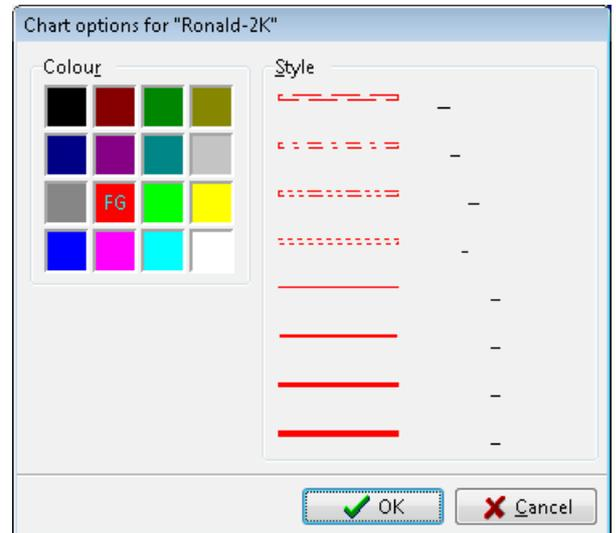

Figure 20 - Chart options
2. The Training sessions list can be found in the top-right. A training session can be temporarily switched on and off by (un-)checking the check box in front of it. “Checked” training sessions are called “Active”. To change the colour of a training session and corresponding graph (or boat) in the chart, double click the name in the training sessions list. This will bring up the *Chart options* dialogue, as shown in Figure 20. Use the pop-up menu alternatively.